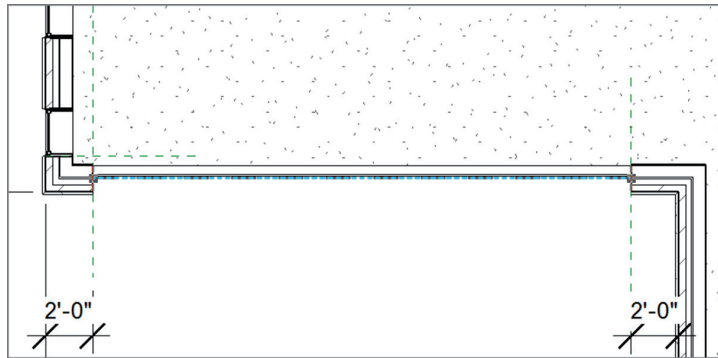

FIGURE BC1.28: Drawing the curtain wall at the centerline of the wall between the two reference planes
14. Draw the wall at the centerline of the wall between each reference plane, as shown in Figure BC1.28. Note that if you draw from left to right, the exterior face of the new wall will be to the inside.